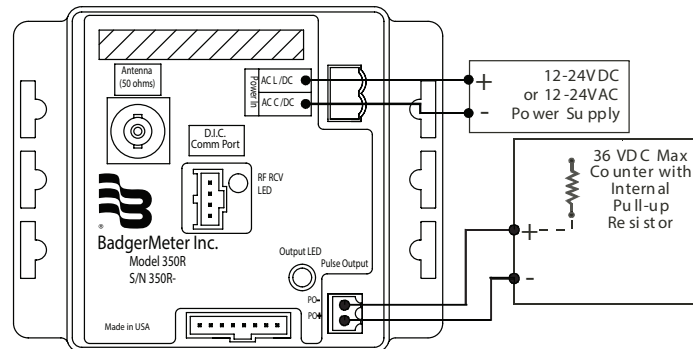

Figure 11: Sample ORION wireless receiver electrical wiring
**NOTE:** Follow these steps and see *Figure 11* for terminal connections and wiring example.